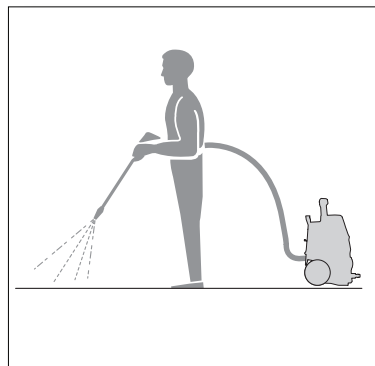

Fig. 17
- Release the safety lock button on the spray gun by pressing the safety lock button from right to left. While pointing the spray gun in a safe direction, squeeze the trigger on the spray gun until there is a steady stream of water, letting the water and air out of the hose. (**Fig. 17**)